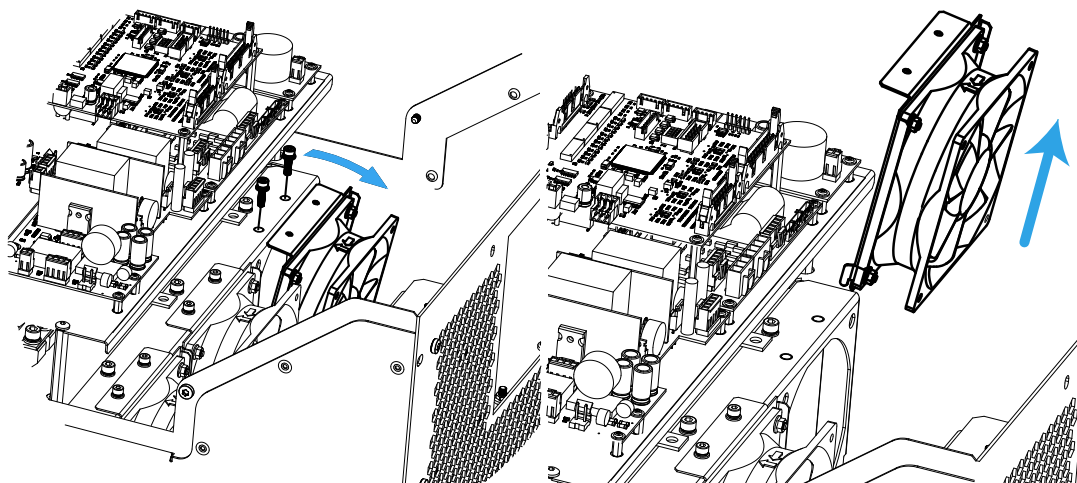

Figure 86: Remove the fan.
6.- Loosen the fan's 2 fixing screws (3 mm allen screws) and tilt it forwards to remove the fan, gently pull the cable away from the fan **Figure 86**.